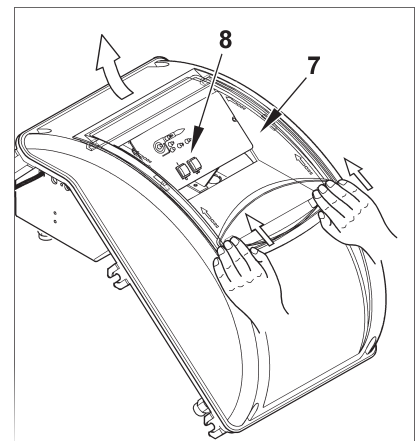

Fig. 4
- 4) To reclose the electrical panel lid, tighten the 4 screws (1) with a torque of about 5 Nm to ensure the correct seal. At this point, to be able to access the control panel (8), unfasten the transparent door (7), using slight touch pressure in the direction of the arrows in figure 4, move it the short distance to separate it from the lid.
5) to properly resecure the transparent door on the panel proceed as indicated in 5:position the hooks at their hooking points and (9) slide the door in the direction indicated by the arrow until it clicks. It is now well sealed.